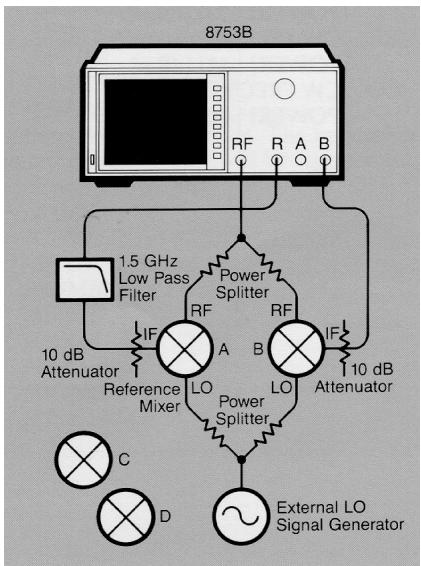

Figure 14. Block diagram for an amplitude and phase tracking measurement
The 8753B can be used to measure swept IF amplitude and phase tracking between mixers over a specified frequency interval. A block diagram of the hardware configuration necessary for this measurement is shown in Figure 14.
1. Connect the hardware, including mixers A and 13, as shown in Figure 14.